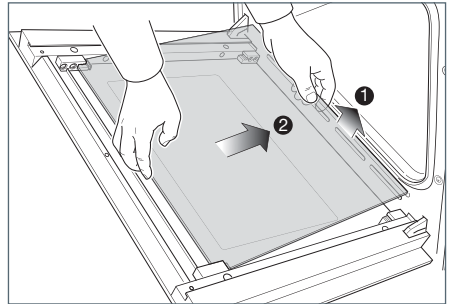

Fig.60c
- Gently lift the bottom edge of the pane (arrow 1 in Fig. 60c) and remove it by pulling it out from the top clamps (arrow 2 in Fig. 60c).